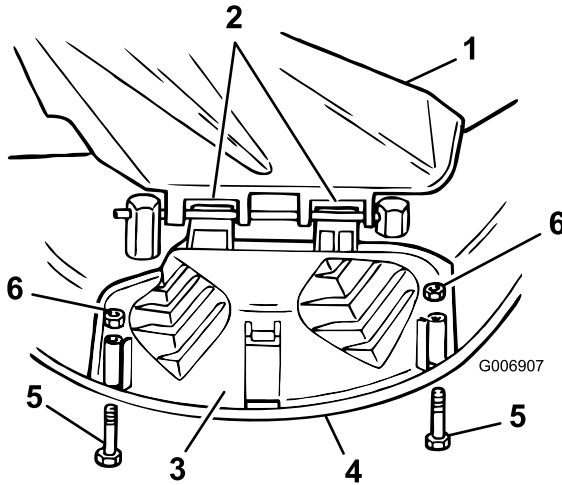

Figure 15
3. Rotate the discharge cover down over the opening, and onto the lower lip of the mower (Figure 15).
4. Secure the discharge cover to the lower lip of the mower with bolts and nuts (Figure 15).